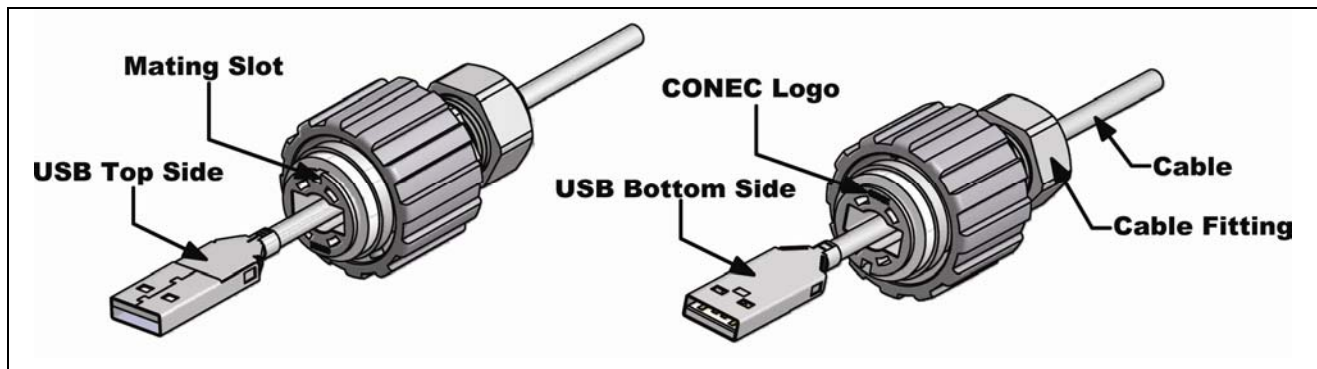

Figure 4-1: Assembly of the USB Type A Plug Housing (Step 1)
Step 1: Position the USB plug top side towards the mating slot of the USB plug housing or position the USB bottom side towards the CONEC logo of the USB plug housing shown in Figure 4-1.